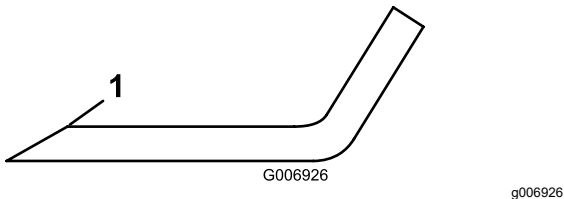

**Figure 69**
3. Examine the cutting ends of the blade carefully, especially where the flat and curved parts of the blade meet (Figure 69).